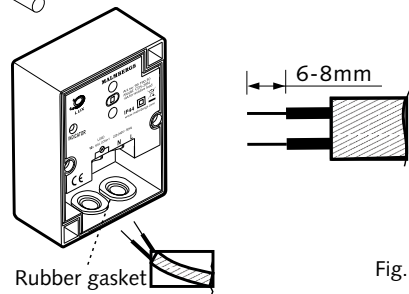

Fig. 7
3. Strip off 6-8 mm sheathing of power cable and pull it through the rubber gasket (See Fig. 7).